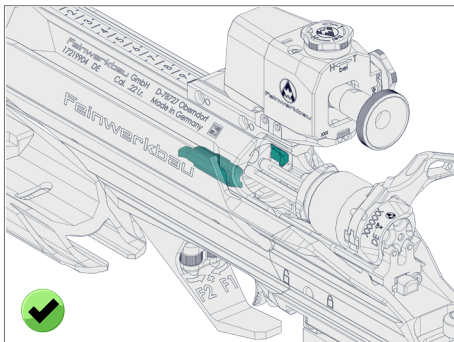

Fig. 5
- Check that the feed rails are secured (Figs. 5 and 6).